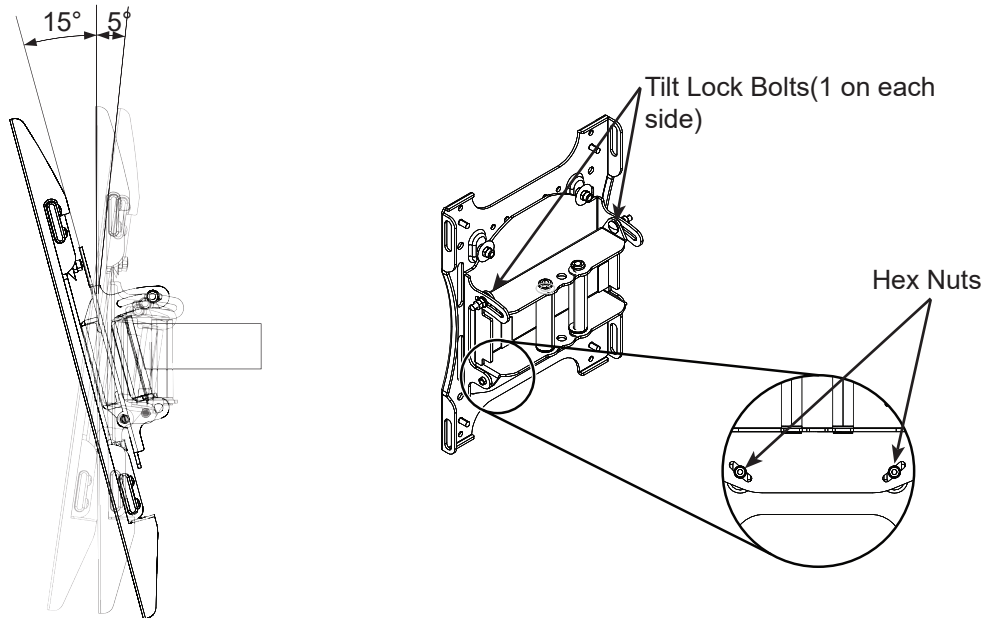

Figure 6
1. Using the provided socket wrench (N), loosen tilt lock bolts each side of mount head (only enough to allow controlled adjustment) (Figure 6).